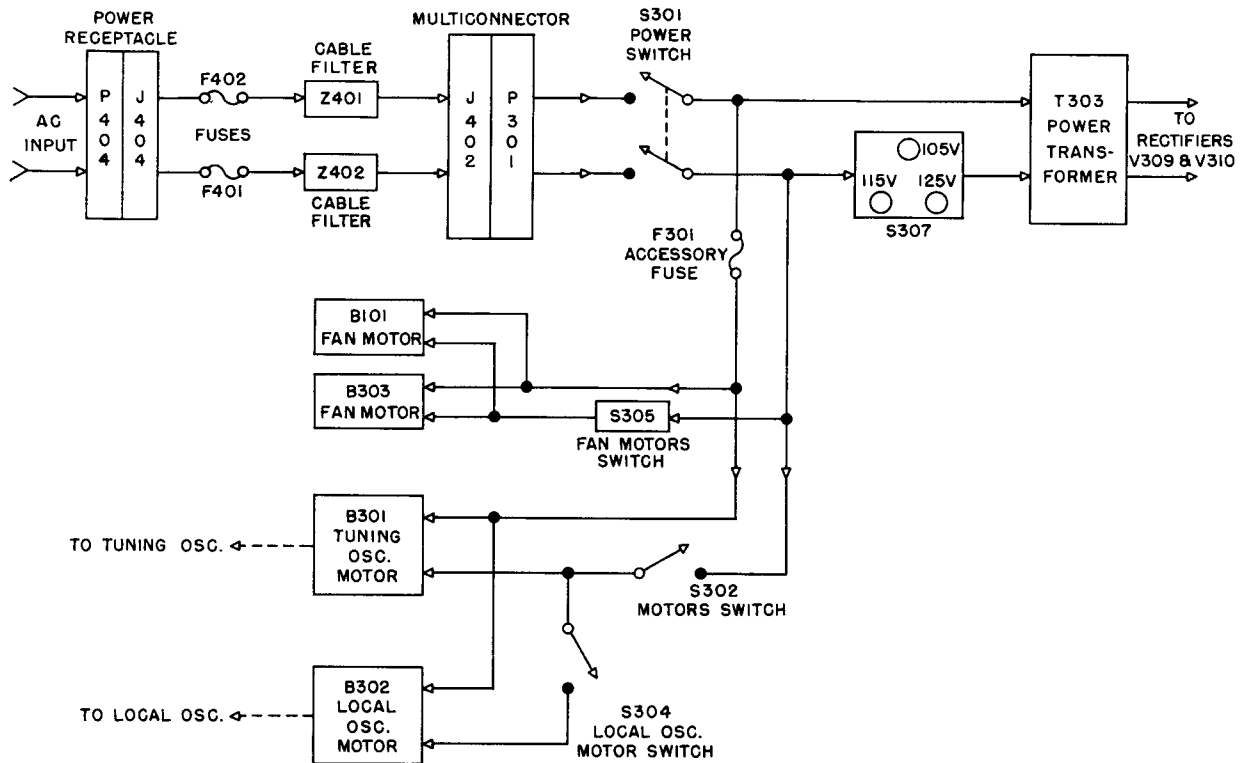

Figure 2-20. Power Circuits, Simplified Block Diagram
l. POWER SUPPLY CIRCUITS. (See Figure 2-20.)—Power for the CV-216/URR may be drawn from a 105, 115 or 125-volt, 50 to 60 cycle AC line. Line power is brought to the power supply by way of connector P404/J404, located on the underside of the cable filter assembly. Both sides of the AC power line are filtered for unwanted radio frequencies by filter Z401 and Z402 also located in the cable filter assembly. Circuit protection is provided by two fuses, F401 and F402, which are mounted inside the cable filter assembly with two spares F403 and F404.